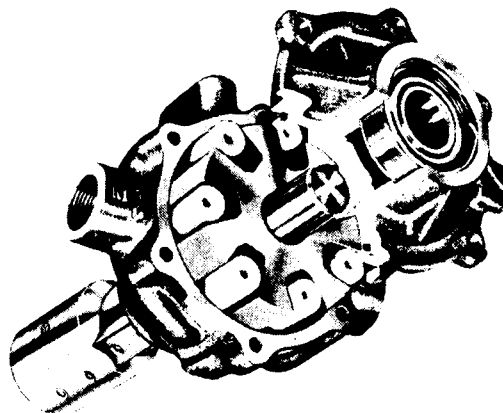

Figure 7-5. Roller pump.
- **Roller pump:** The roller pump (Figure 7-5) may be the most commonly found sprayer pump. The pump's 5, 6, 7, or 8 rollers are either nylon or a rubber material. The latter are more expensive than nylon, but are considered to be more durable when abrasive wettable powder suspensions are pumped. Replacing rollers does not always restore a pump to its original condition as wettable powders may cause wear in the pump housing and/or the roller grooves in the pump rotor. Activated carbon is too abrasive for roller pumps.